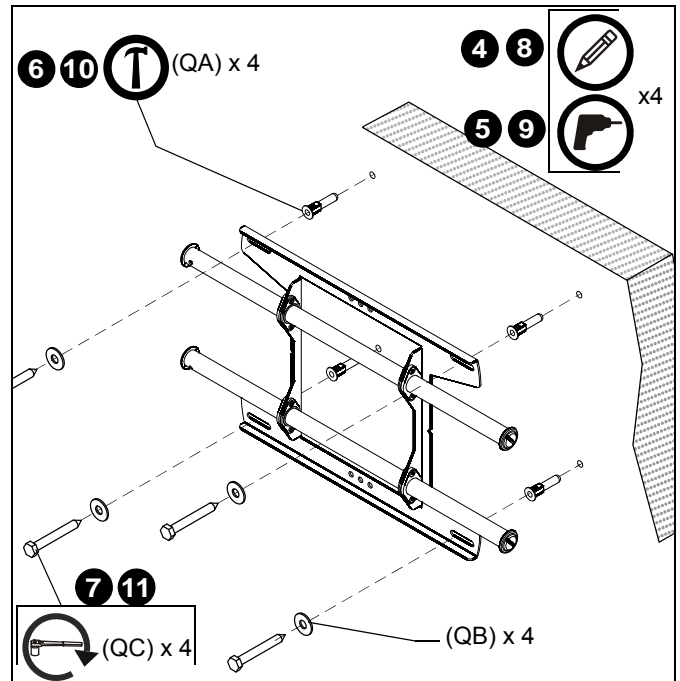

Figure 4
4. Using a level, mark the wall through both upper mounting slots. (See Figure 4)
6. Install an anchor (QA) into each pilot hole using a hammer.
7. Use two 5/16 x 2-1/2" lag bolts (QC) and two 5/16" flat washers (QB) to attach top of mount to anchors in wall.
8. Mark the attachment points for the lower mounting slots. (See Figure 4)
9. Drill one 5/16" (7.9mm) pilot hole at each marking for lower mounting holes. (See Figure 4)
10. Install an anchor (QA) into each pilot hole using a hammer.
11. Use two 5/16 x 2-1/2" lag bolts (QC) and two 5/16" flat washers (QB) to attach the mount to the wall through the lower mounting holes. (See Figure 4)